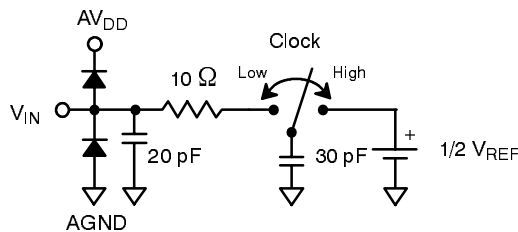

Figure 5. Analog Input Equivalent Circuit
- 4 See V_{IN} input equivalent circuit (Figure 5.). Switched capacitor analog input requires driver with low output resistance.